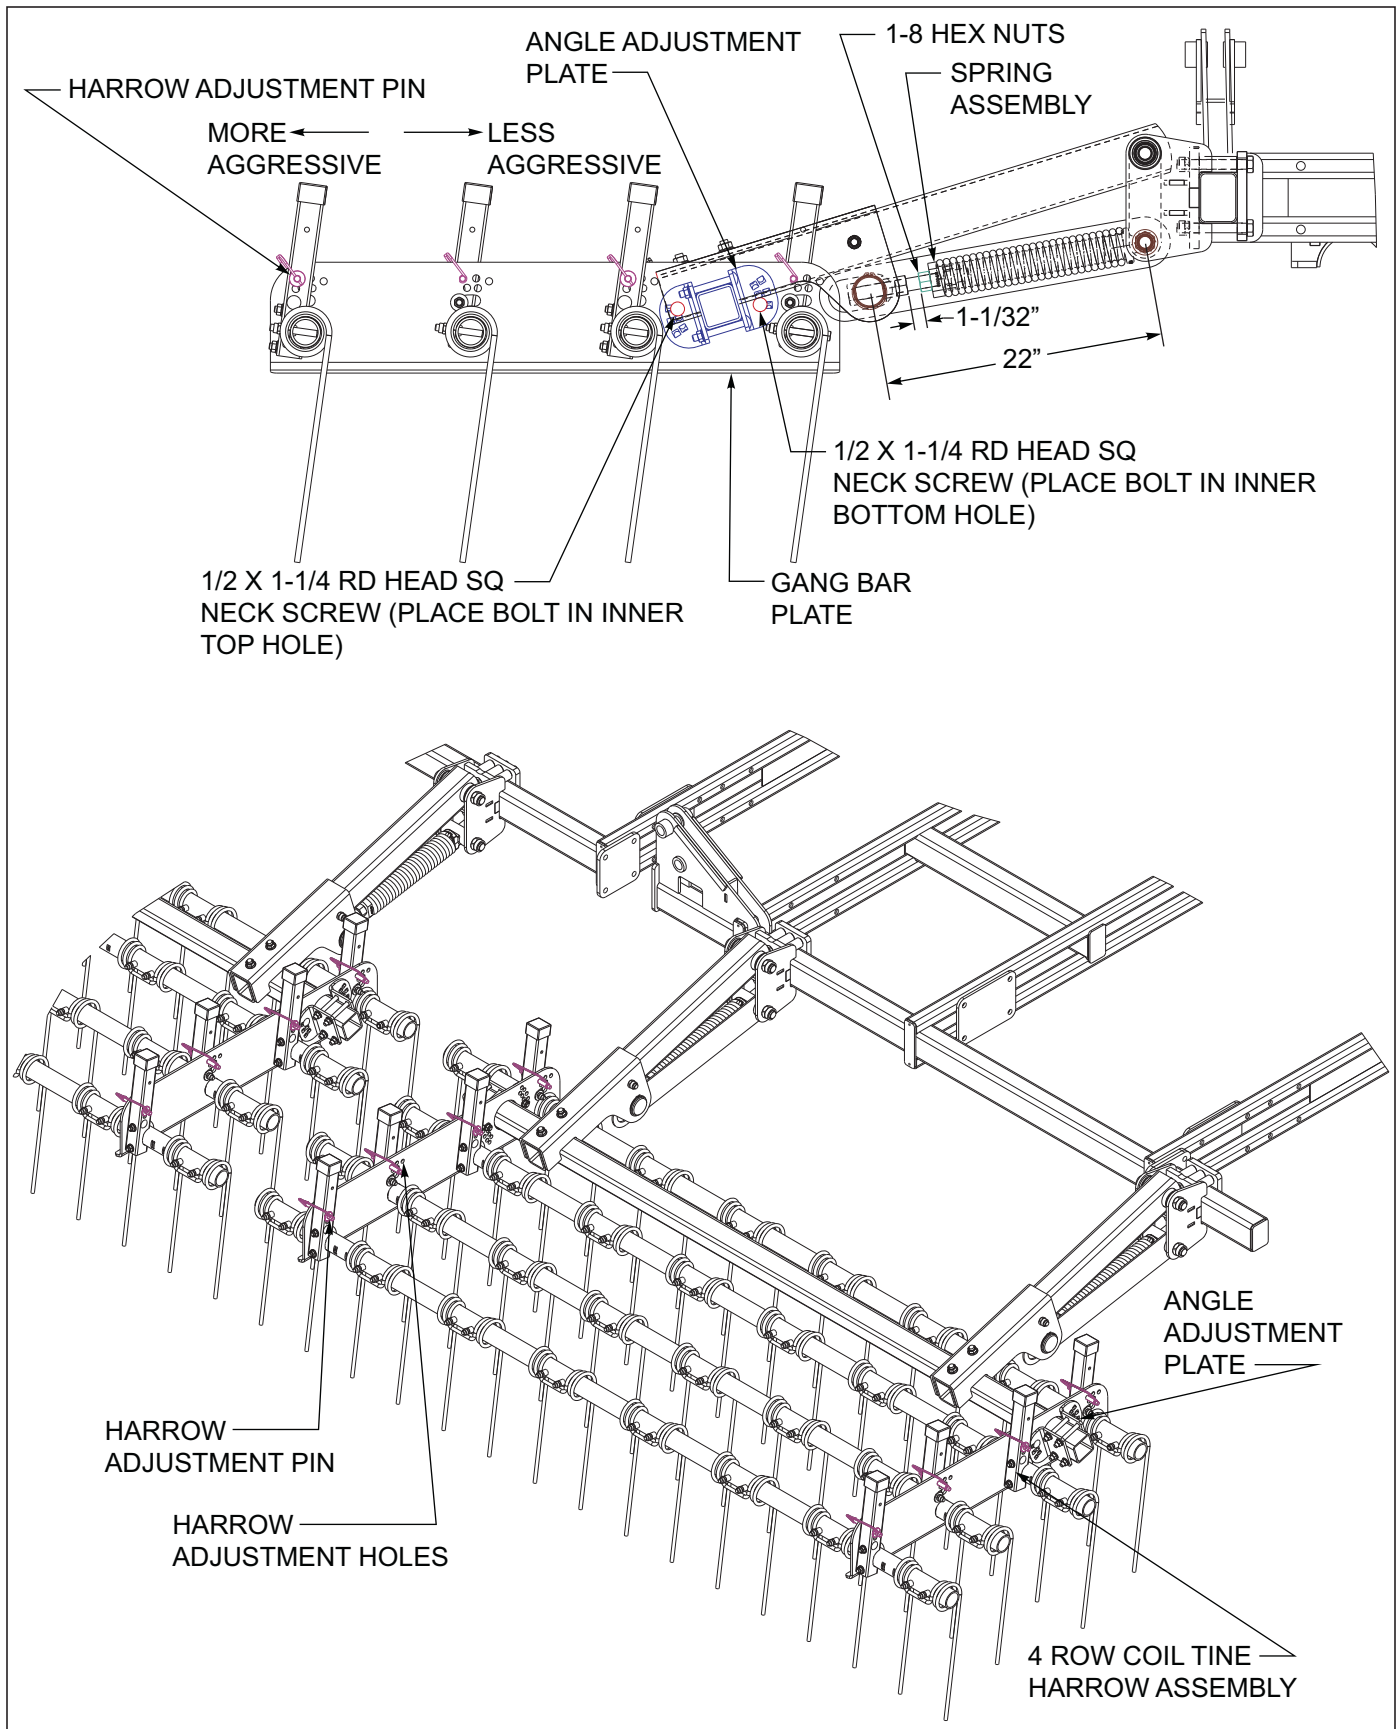

Figure 4-12: 4 Row Coil Tine Adjustment
2. In general tine harrows have better capabilities for handling more residue and wetter conditions. When operating the coil tine harrow, a more vertical tine tooth angle will make the harrow more aggressive. A lower/flatter tine angle will make the harrow less aggressive but will handle more residue and wetter conditions. To change the tine angle, raise the harrow off the ground. Remove the harrow pin from both angle adjustment tubes per tine gang bar tube **See Figure 4-12**. Rotate the angle adjustment tubes forward (less aggressive) or rearward (more aggressive) and reinstall both spring clip pins. Repeat the tine adjustment for each tine gangbar tube and harrow section.
3. The initial setting for the spring assembly should be 22". Each harrow section may also be adjusted for operating height. To change the harrow height **See Figure 4-12**, loosen both 1-8 hex nuts. Raise or lower the harrow arm by turning the bolt head for the spring adjustment bolt. Then re-tighten the 1-8 hex nuts. When initially setting the harrow height, the bottom tips of the tine tooth (pulled back at the desired tooth angle) should be approximately level with the field cultivator sweeps.